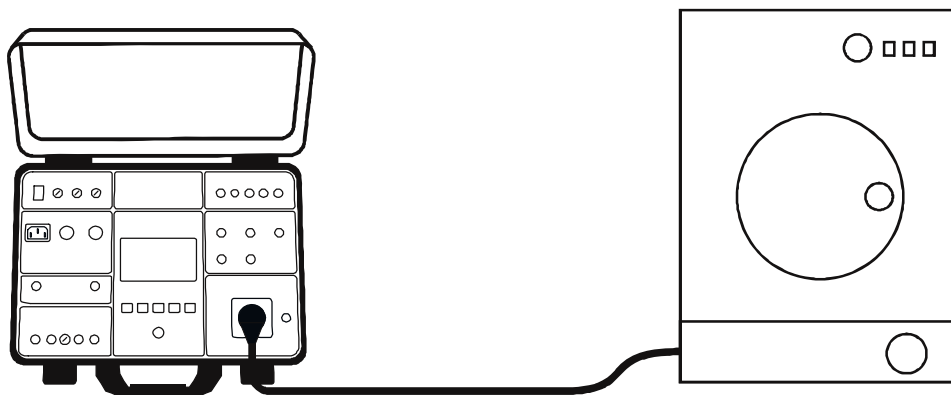

Fig. 74 : Connection of current clamp in ILEAK measurement – SOCKET mode
- Connect the UUT to schuko socket according to the Fig. 74